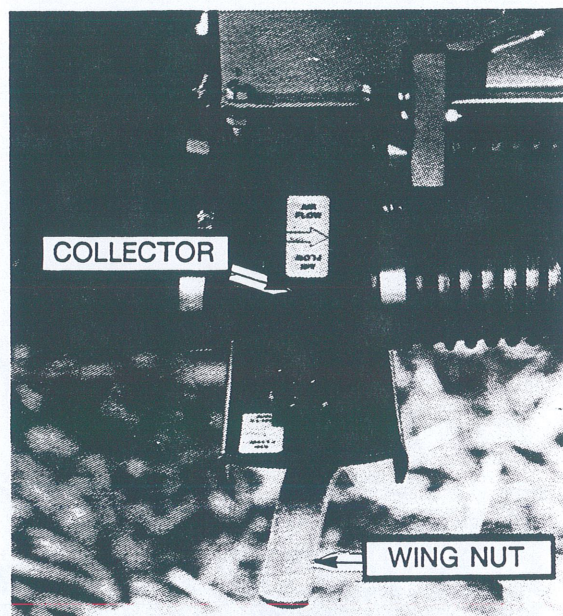

Figure 28 - Collector Bottom
- Remove the Wing Nuts. (See Fig. 28).
- Turn the crank until material begins to fall through the collector body. (See Fig. 28).
NOTE: Arrow directions on the collector **bottom** must point in the same direction as the ones on the collector **body**. (See Fig. 28) On newer models, the collector bottom can only be assembled one way.